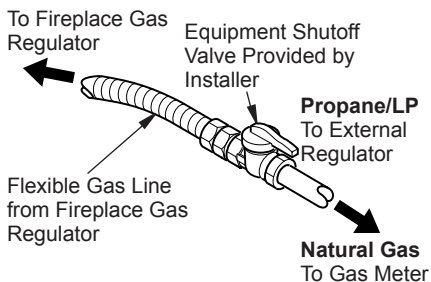

Figure 20 - Attaching Flexible Gas Lines Together
4. Attach the flexible gas line to gas supply (see Figure 20). Check tightness of flexible gas line attached to gas regulator of fireplace (see Figure 20).
NOTICE: Most building codes do not permit concealed gas connections. A flexible gas line is provided to allow accessibility from the fireplace (see Figure 20). The flexible gas supply line connection to the equipment shutoff valve should be accessible.